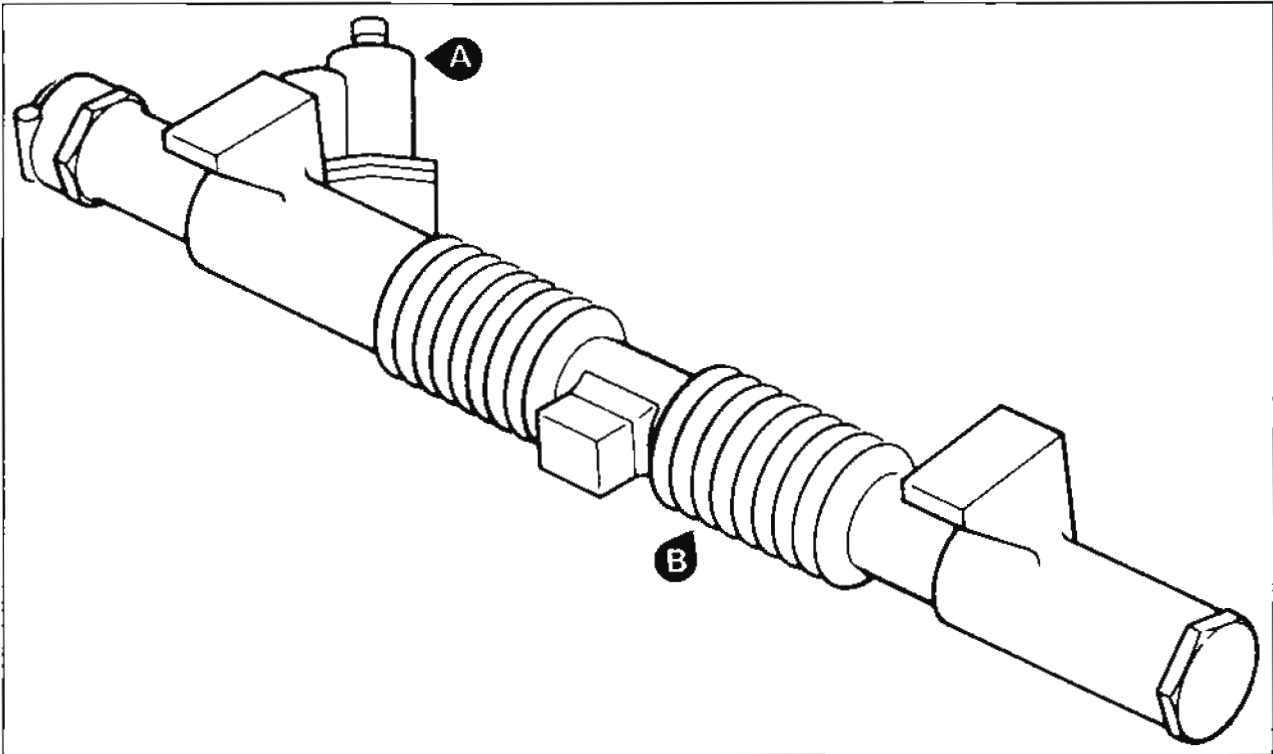
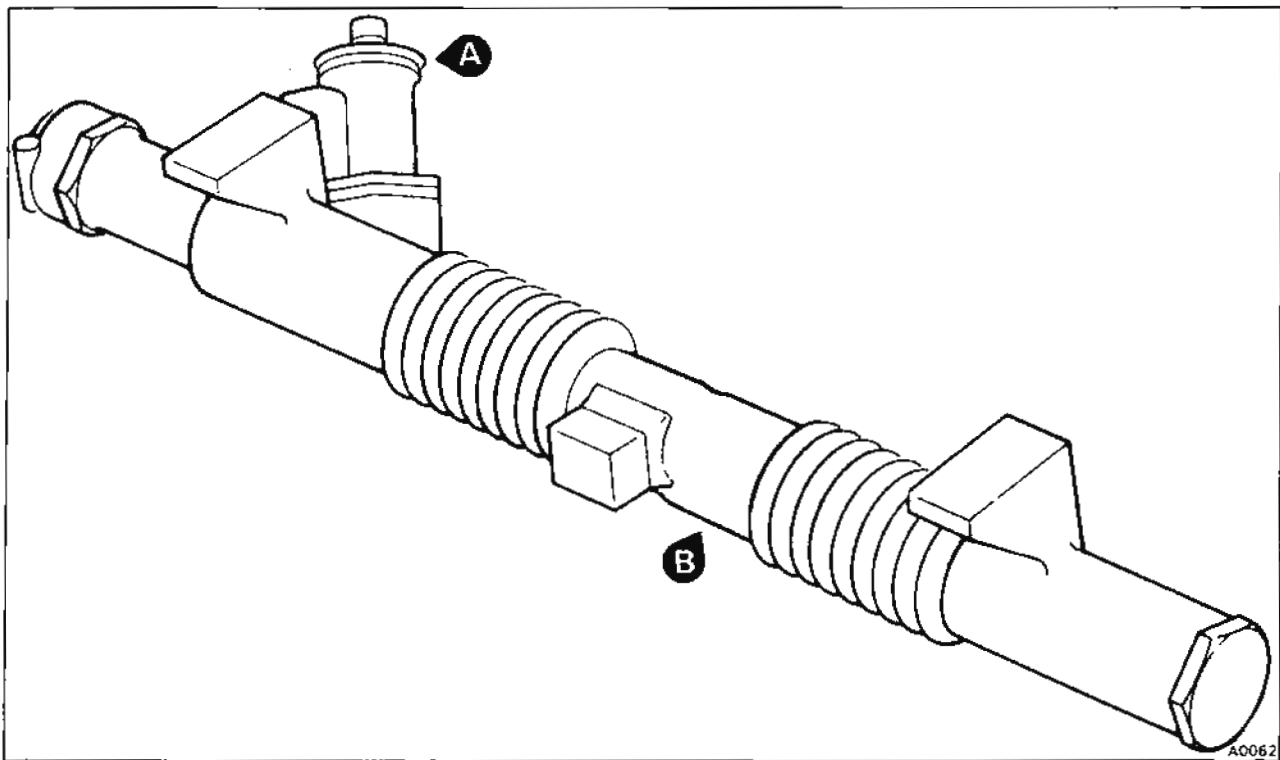

Fig. 1 Steering rack (early cars)
Fig. 2 Steering rack (later cars)
The later steering racks can be visually identified by the differences in the spool valve housing and the position of the convoluted bellows (see fig. 1 (early cars) and fig. 2 (later cars)).
- 1 Note the difference in the spool valve housing (see figs. 1,A and 2,A).
- 2 Note the difference in the positioning of the bellows on the rack tube (see figs. 1,B and 2,B)